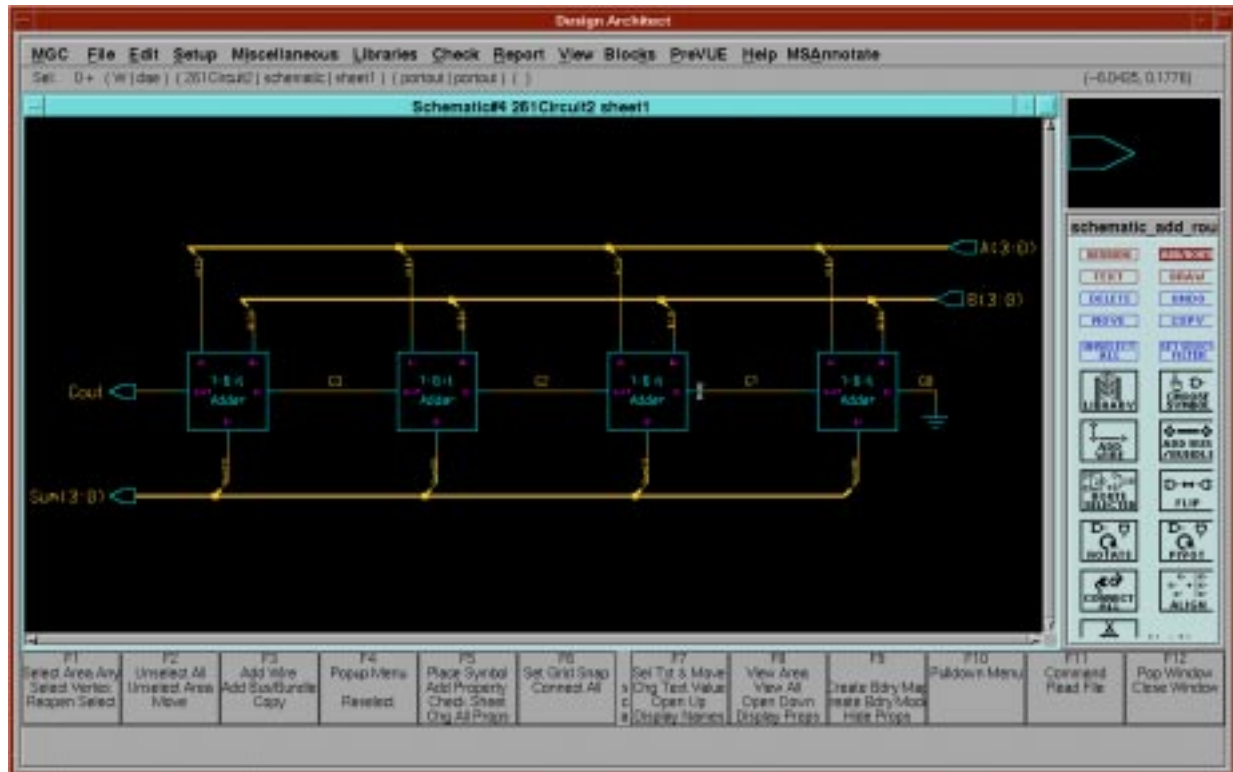

FIGURE 1. Four-Bit Adder for Project 2
In this section, you will use copies of the one-bit adder you were given in the last part to build a four-bit adder. A suggestion for the layout of the circuit is shown in Figure 1. Remember, you have to edit the circuit from **Design Architect**. From **Design Manager**, select the `261Circuit2` icon, then start **Design Architect** on it from the pop-up menu. Once **Design Architect** has loaded, follow the steps below to modify your circuit.
3. Unselect everything, then select just the Cout and Sum output ports. Use the `Move` command from the pop-up menu, the menu bar or the palette to move them to the far left of your circuit. See Figure 1 for placement of the output ports.
4. Next, you will begin to wire up your circuit. Look at Figure 1. Notice how the wires coming from inputs A and B and the wire going to output Sum are thicker? These lines are busses (bundles of wires). In this case, there are four wires in each bus. To add these you will need to use the `ADD BUS/BUNDLE` tool from the `ADD/ROUTE` palette. This tool works just like the `ADD WIRE` tool. Draw a straight line for each bus. Cancel the tool when you are done drawing.
6. Now that you have changed the names so Mentor knows the size of the busses, you can add the other wires to your circuit. In this step, you will draw wires from the adders to the busses. When you draw a wire that attaches to a bus, a bus ripper is automatically installed. (A bus ripper is just a device to pull one wire or bit out of the bundle). When the ripper is placed, you will be prompted to enter what bit of the bus the ripper is to pull out. Enter the bit number and `OK` the form. The label is automatically placed. Referring to Figure 1, you will see that the far left adder corresponds to bit 3 of the bus and the far right adder is bit 0. Draw the bus connections for each adder and enter the proper bit numbers, following Figure 1's numbering pattern. When you are done, draw the wires between the adders and the connection to the Cout port. Note that when you're drawing the wires that attach to the busses, you must start at the other end and finish on the bus. Otherwise, a bus ripper will not be installed.